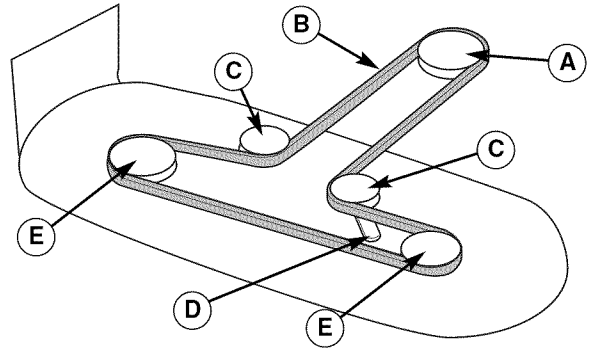
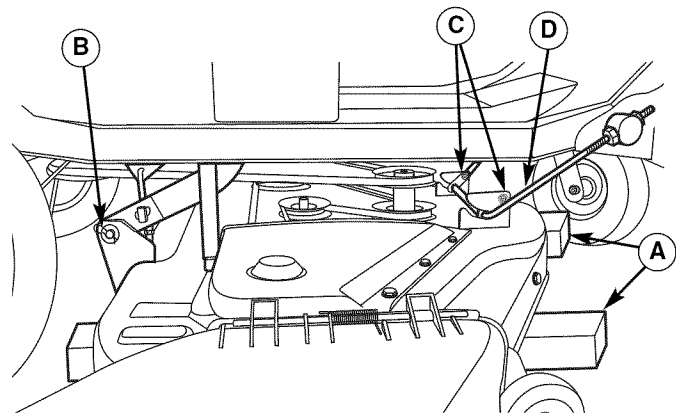

Figure 13. Mower Belt Routing
Figure 14. Mower Hitch Components
3. Use the mower belt release lever (D, Figure 13) to release belt tension. Remove the mower belt (B) from engine pulley (A).
7. Use the mower cutting height switch to fully lower the mower so that it is resting on the 4x4 wood blocks (A, Figure 14).
9. Remove the hair pin clip (B) securing the rear mower lift arm. Separate the lift arm from the mower deck. Repeat on both sides of the mower.
10. Remove the 3/8 -16 x 3/4 carriage bolts and flange nuts (C) that secure the front hitch rod, then remove the hitch rod (D).
1. Slide the mower deck under the right side of the rider. Slide the mower forward and hook the front hitch rod (D, Figure 14) to the front mower deck hooks.
2. Secure front hitch rod with two 3/8 -16 x 3/4 carriage bolts and flange nuts (C).
3. Slide the mower deck backwards and connect the rear lift arms to the mower deck. Secure with hair pin clips (B).
5. Use the cutting height switch to raise the mower until it is no longer resting on the 4x4 wood blocks (A).
7. Use the mower belt release lever (D, Figure 13) to release mower belt tension, and install the belt as shown.